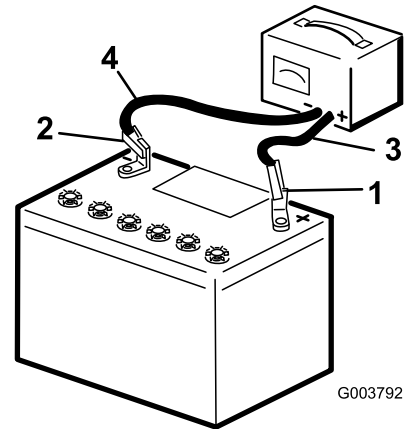

Figure 41
- Charge the battery at a rate of 3 to 4 A for 4 to 8 hours (Figure 41). Do not overcharge the battery.
- When the battery is fully charged, unplug the charger from the electrical outlet, then disconnect the charger leads from the battery posts (Figure 41).